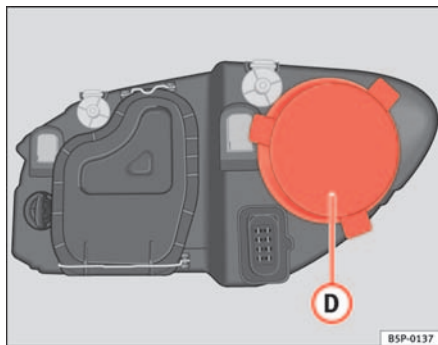

Fig. 186 Side lights
- Remove the cover ⇒ fig. 186 **D** by pulling on this.